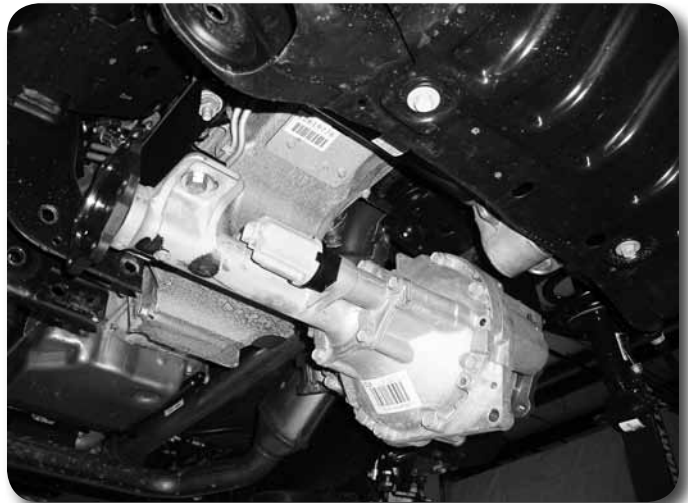

Figure 20A
32. Using an appropriate jack, install the differential in the vehicle by attaching it to the new driver's and passenger's differential brackets. Fasten the differential to the brackets with $\frac{1}{2}$ " x $1\frac{3}{4}$ " bolts, nuts and washers. Use two $\frac{1}{2}$ " SAE washers on each bolt for the driver's side. Use one $\frac{1}{2}$ " SAE washer and one extra large $\frac{1}{2}$ " washer on the passenger's side. The extra large washer will go against the differential housing flange with the large slots **Figures 20A & B**. Torque the $\frac{1}{2}$ " hardware to 65 ft-lbs. Pull the differential forward as the passenger's side bolts are tightened.